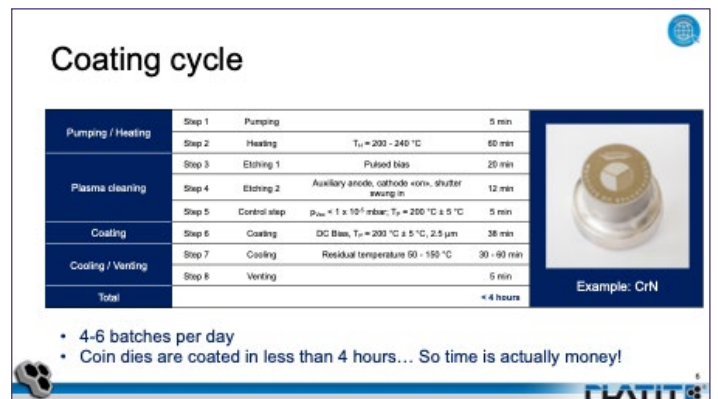

Fig 3: Coating cycle.
There are four basic steps – (1) pumping (to remove all air) followed by heating to 200-240°C (1 hour). The next step (2) is plasma cleaning (etching) to remove a thin oxide layer from the surface of the die and takes about 35 minutes, after which (3) coating takes place for around 35-40 minutes. Finally (4) are cooling (30-60 minutes) and venting (5 minutes). The whole process takes around four hours, allowing 4-6 batches a day, which is really fast given 18 dies (small) can be loaded into a single batch (see Fig 3).